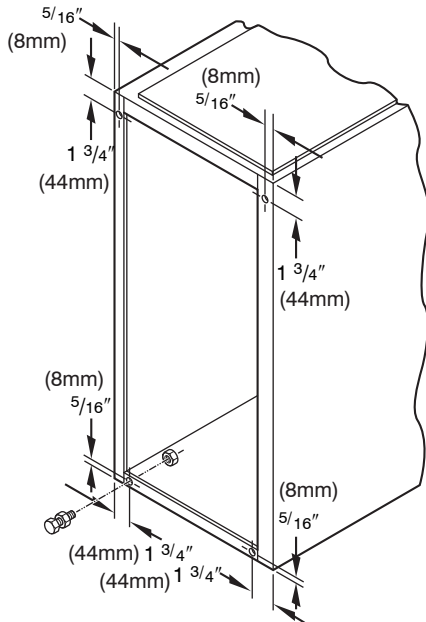

Fig. 10 - Leveling Legs
In upflow position with side return inlet(s), leveling legs may be used. (See Fig. 10.) Install field-supplied, 5/16 x 1-1/2 in. (8 x
1. Position furnace on its back. Locate and drill a hole in each bottom corner of furnace. (See Fig. 10.)